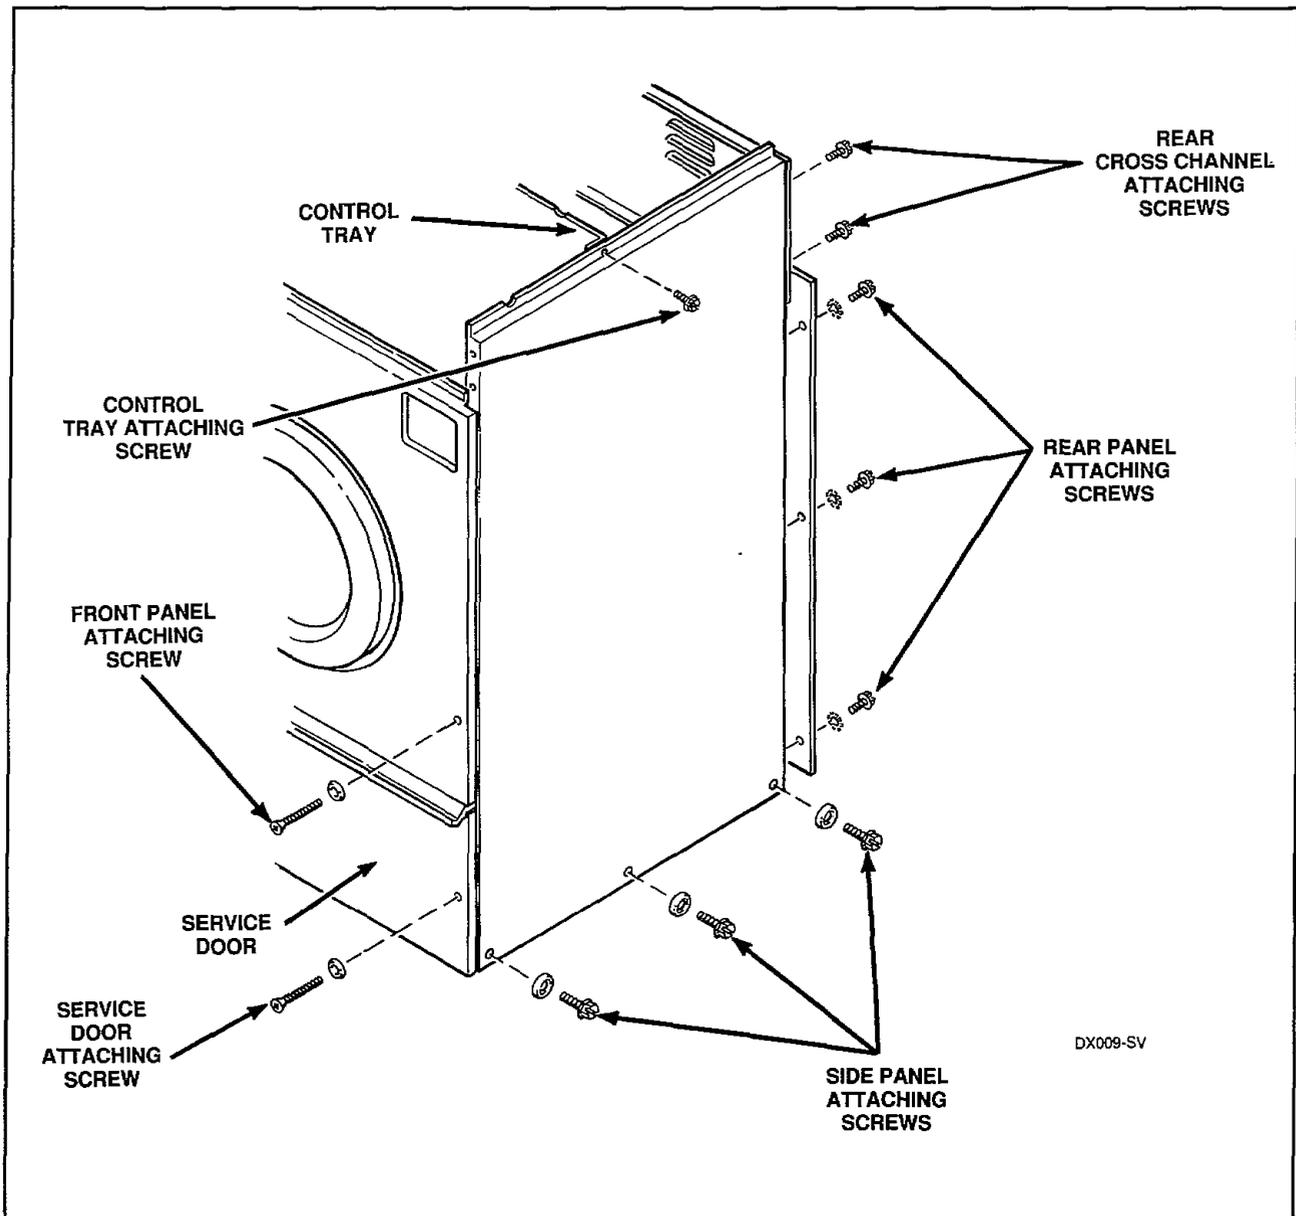

Figure 13
- e. Remove two screws and cupped washers holding service door to washer side panel and remove door, *Figure 13*.
- f. Remove screws holding rear panel and cross channel to the side panel, *Figure 13*.
- g. Remove screw and cupped washer holding front panel to side panel, *Figure 13*.
- i. **RIGHT SIDE PANEL ONLY** — Remove screw holding control tray to top flange of side panel, *Figure 13*.
- j. While supporting side panel, remove screws holding side panel to washer base, *Figure 13*.